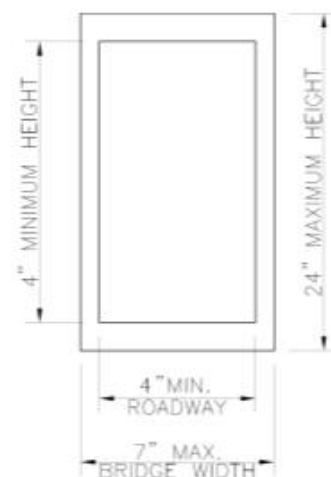

Figure 2: Cross Section of Bridge with Roadway through Bridge
3. The overall width is limited to 7 inches maximum. The roadway width shall be a minimum of 4 inches. The roadway is defined as the distance between the sides of the bridge (in the case of a through truss) or the overall width of the bridge when the roadway is on top of the bridge. See Figure 2 and Figure 3.
- The 4” minimum shown in Figure 2 only applies if the roadway is inside the bridge. There is no minimum height if the roadway is on the top of the bridge. See Figure 3.